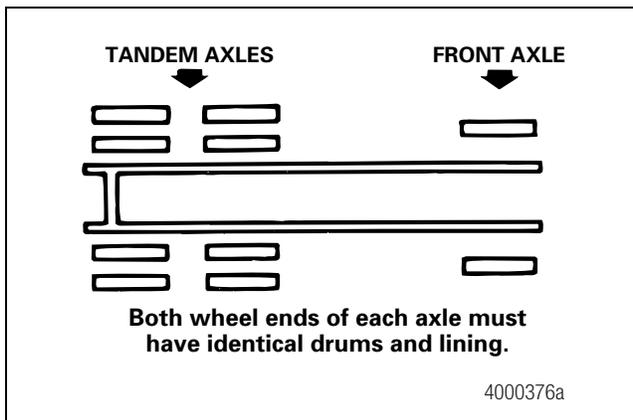

Figure 8.4
5. Both wheel ends of each axle must have the same linings and drums. All four wheel ends of the tandem axles also must have the same linings and drums. It is not necessary for the front axle brakes to be the same as the rear drive axle brakes. Figure 8.4.